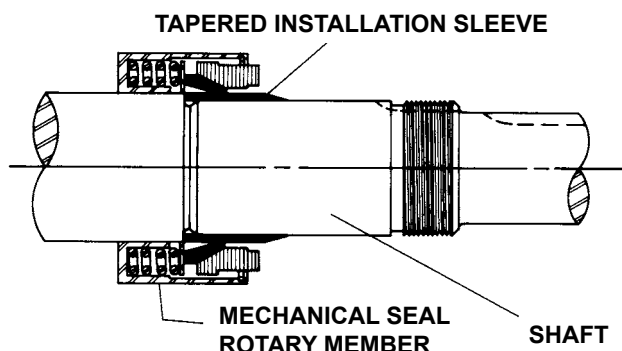

FIGURE 11
2. Place tapered installation sleeve on the shaft (See Figure 11). Q, QS sizes only.
4. Start rotary member on shaft (including seat collar and screws on bellows seal) and ease over tapered sleeve (See Figure 11).